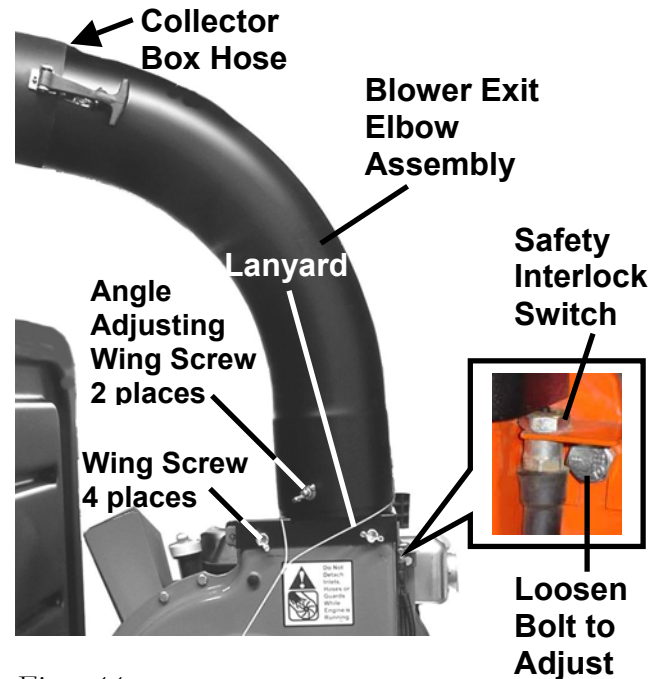

Figure 14
1. Install the Blower Exit Elbow Assembly on top of the Blower with the elbow pointing toward the Collector Box (*Figure 14*).
2. Align the hood of the Blower Exit Elbow Assembly to assure that the Safety Interlock Switch is engaged, verify the position of the Lanyard as shown, and then install a Lock Washer and Flat Washer over each of the four (4) 5/16" x 1/2" Wing Screws and hand tighten them to the blower housing (*Figure 14*).
Note: Align the Exit Elbow with the hose by loosening the two (2) Wing Screws (*Figure 14*) one or two turns and then turn the Elbow to align with the hose.